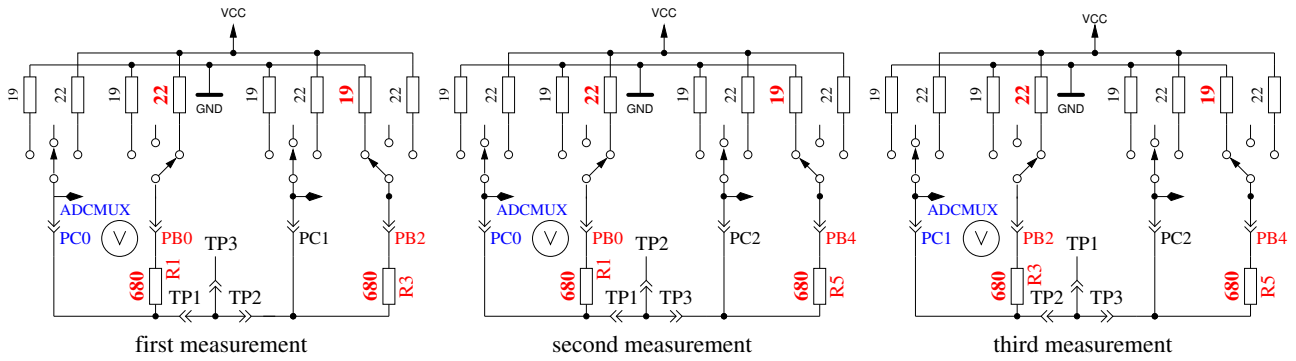

Figure 5.62. Comparison of 680Ω resistors
2. **Comparing of the  $680\Omega$  resistors.** In row 1 the cryptic text “+RL- 12 13 23” is shown. Meaning of this is as follows: The RL is the short form of Resistor Low meaning the  $680\Omega$  resistors. The 12 stand for: resistor at pin 1 is connected to VCC (+) and resistor at pin 2 is connected to GND (-). The result of this measurement is displayed in row 2 at the first place as difference to the theoretical value. In row 1 follows now a “13” which means, that the first connection of measurement 1 is still connected with  $680\Omega$  to VCC but that the resistor of pin 3 is connected to GND. The result is displayed in the middle place of row 2 as difference to the theoretical value. The last measurement of this test “23.” means that now the resistor at pin 2 is connected to VCC (+) and the resistor of pin 3 is connected to GND. The result of measurement is displayed at the last place of LCR row 2 as difference to the theoretical value. Please remember, that the resolution of the ADC is about  $4.88mV$ ! The measurement situation is also shown in figure 5.62. The theoretical value with respect to the internal resistance of the pins should be: